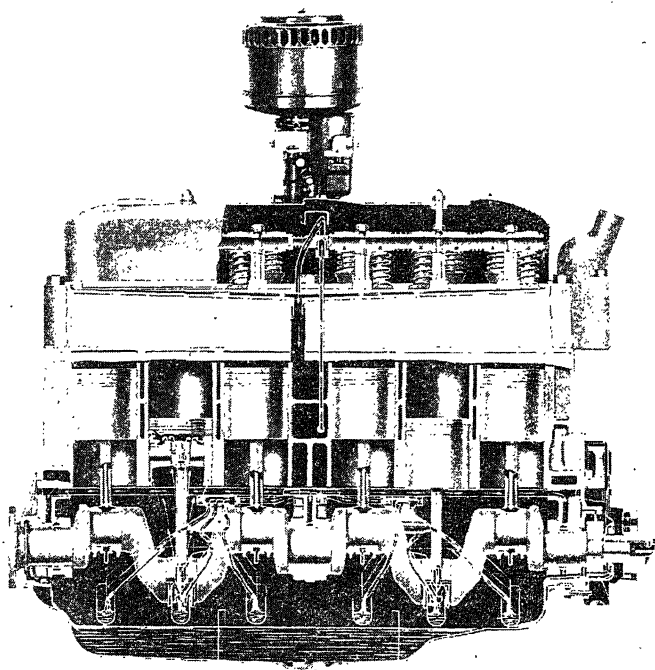

Fig. 7. Chevrolet Truck Engine Lubricating System with Oil Sump at
**Engine Pans and Oil Sumps.** As a rule, the engine pan and oil sump is a single unit and is bolted to the lower surface of the crank case. Fig. 7 illustrates a pressed-steel engine pan and oil sump. It will be noted that there are six troughs in this assembly. These troughs are in what is called the upper level of the engine pan. When splash lubrication is depended upon, each connecting rod is provided with a trough. Oil is lifted to these troughs and splashed by a dipper to the connecting rod, connecting-rod bearing, cylinder bores, pistons, cam shaft, valve lifters, etc.